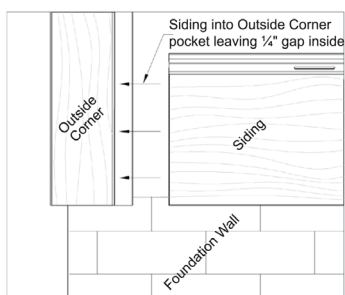

Figure 4
- To accommodate lateral expansion and contraction, always leave a 1/4" gap between the end of the siding plank and the inner wall of the pocketed trim (Figure 4).